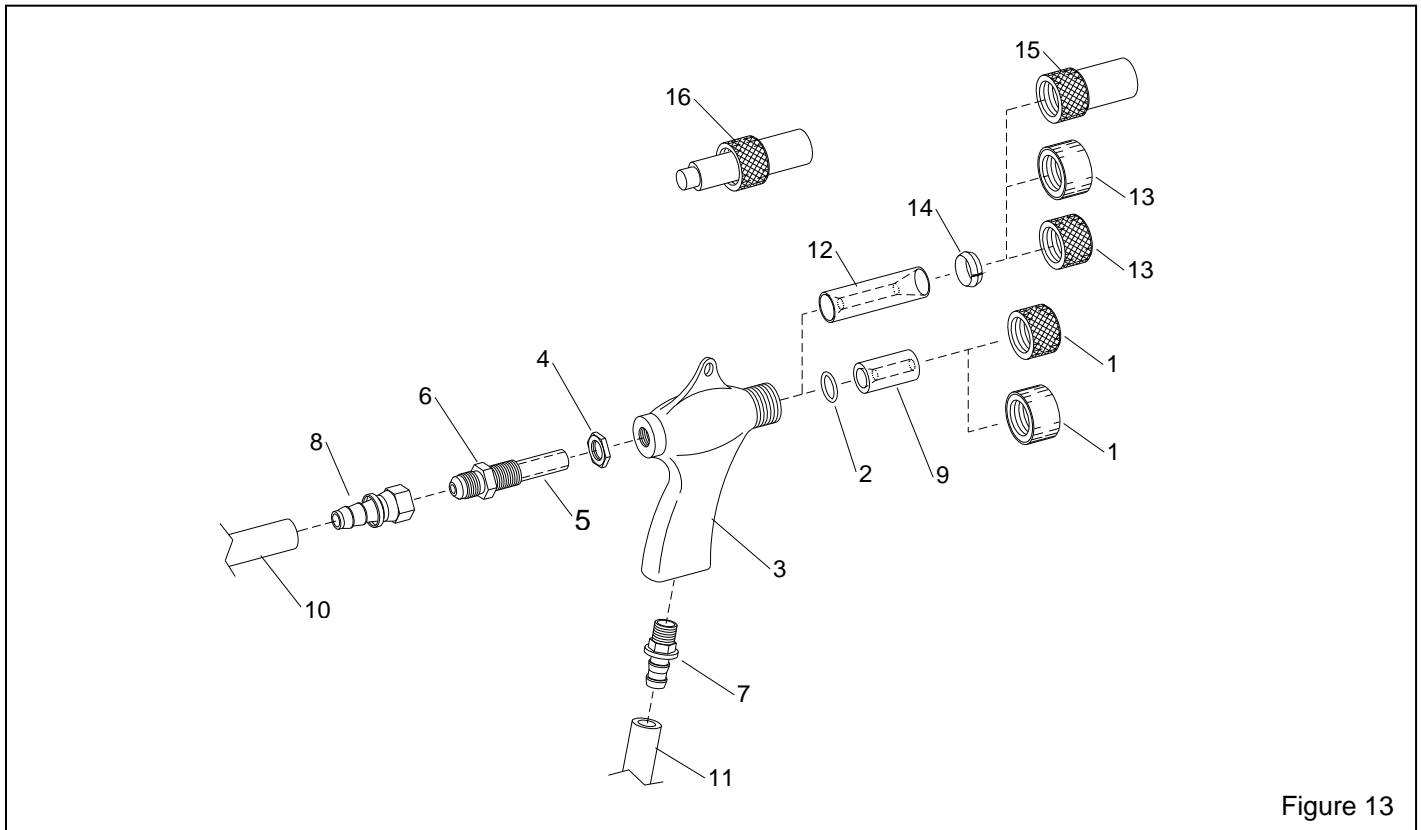

Figure 13
9.3 BNP Gun and Feed Assembly, Figure 13